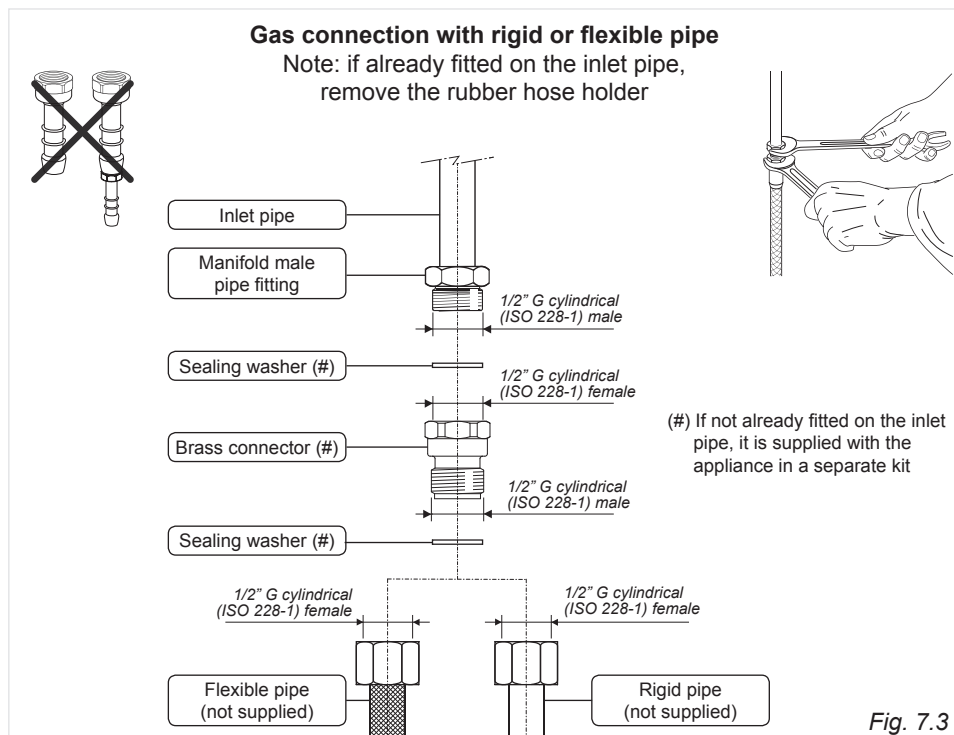

Fig. 7.3
- if compression fittings are used, you tighten them firmly using two spanners (Fig. 7.3).
- use two spanners when connecting the rigid or flexible pipe (Fig. 7.3).